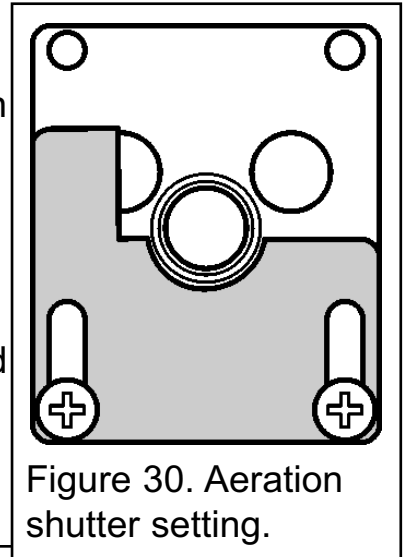

Figure 30. Aeration shutter setting.
1. The aeration shutter is factory set. It is important to ensure that the aeration setting is correct (See figure 30).
2. If the setting is not as shown in figure 30 adjust the aeration setting. To do this loosen the two aeration shutter screws, slide the aeration shutter to the desired position and tighten the screws.